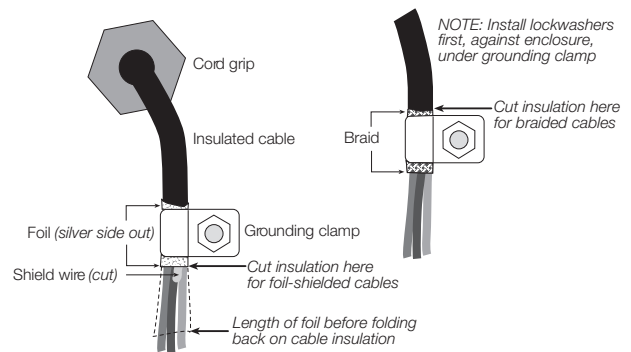

Figure 2-1. Grounding Clamp Attachment for Foil-Shielded and Braided Cabling
- For cables with foil shielding, strip insulation and foil from the cable half an inch (13 mm) past the grounding clamp (see Figure 2-1). Fold the foil shield back on the cable where the cable passes through the clamp. Ensure silver (conductive) side of foil is turned outward for contact with the grounding clamp.
- For cables with braided shielding, strip cable insulation and braided shield from a point just past the grounding clamp. Strip another half inch (15 mm) of insulation *only* to expose the braid where the cable passes through the clamp (see Figure 2-1).
- Route stripped cables through cord grips and clamps. Ensure shields contact grounding clamps as shown in Figure 2-1. Tighten grounding clamp nuts.